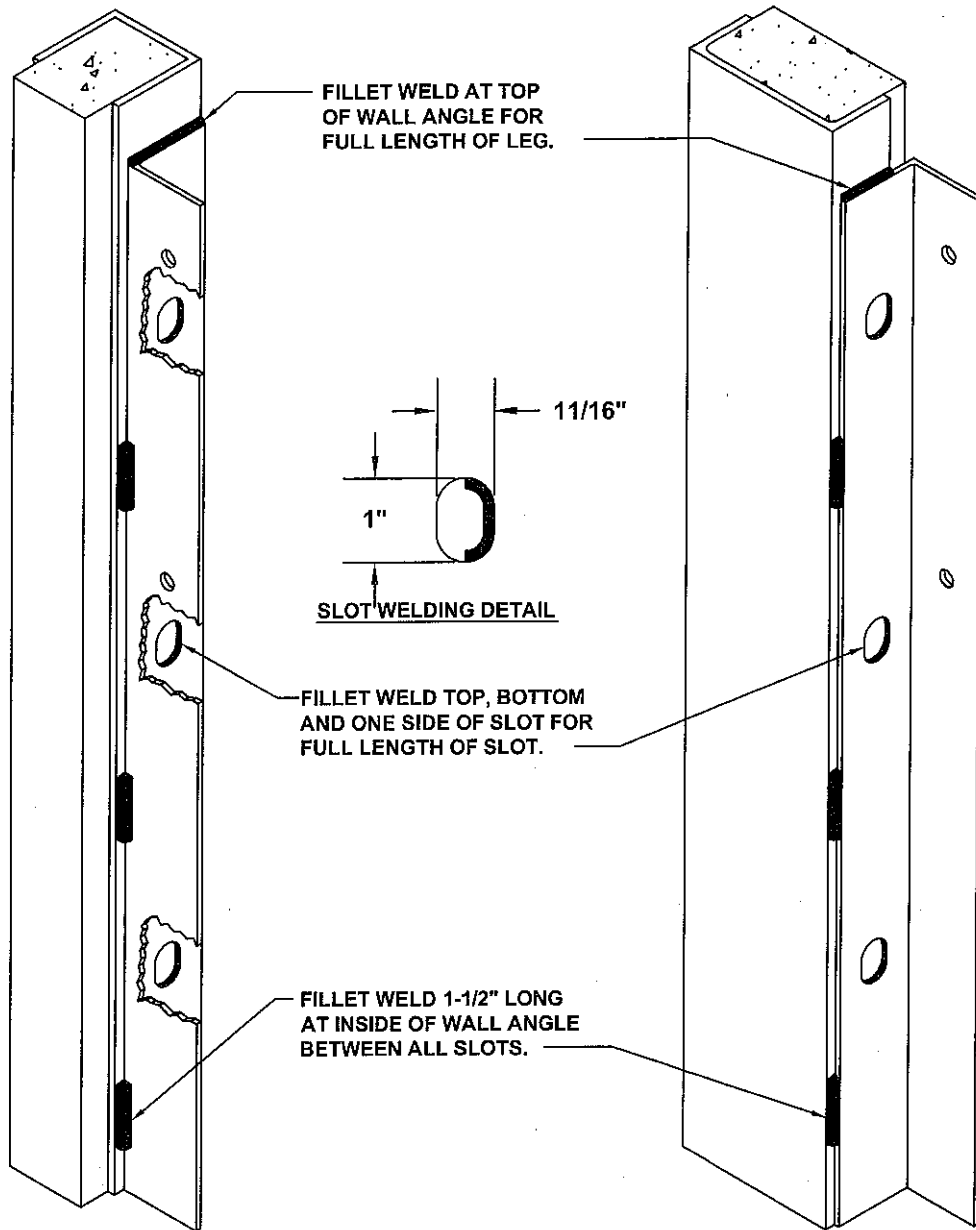

FIG 6
- 3) Check the Guide opening measurement. Locate a mark on the floor at the tip of each guide and measure. Guide measurement must equal Dim "B". (See FIG 6) **THIS IS CRITICAL** If guide opening does not equal Dim "B", **STOP** and redo steps 1 and 2.